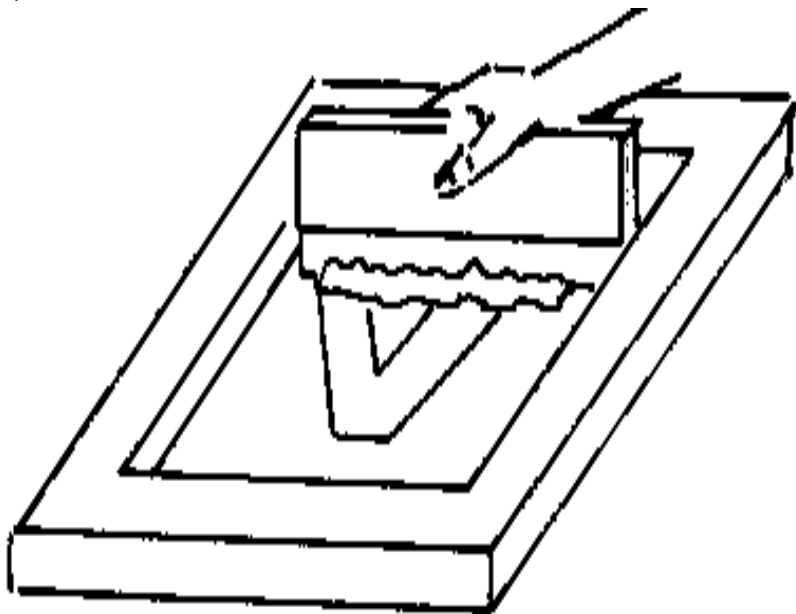

FIGURE 4. THE SQUEEGEE IS USED TO DRAW THE THICK PAINT ACROSS THE SILK SCREEN.
3. Using an edge of the squeegee, pull the paint across the surface of the silk. This squeezes the paint through all the open areas of the paper stencil. Lift the screen and remove the print, replacing it with the next piece to be printed. Pull the paint back in the opposite direction for this print. The correct technique is to put an amount of paint on the screen that will, combined with the right pressure on the squeegee, produce a good print with one stroke of the squeegee. <see figure 4>